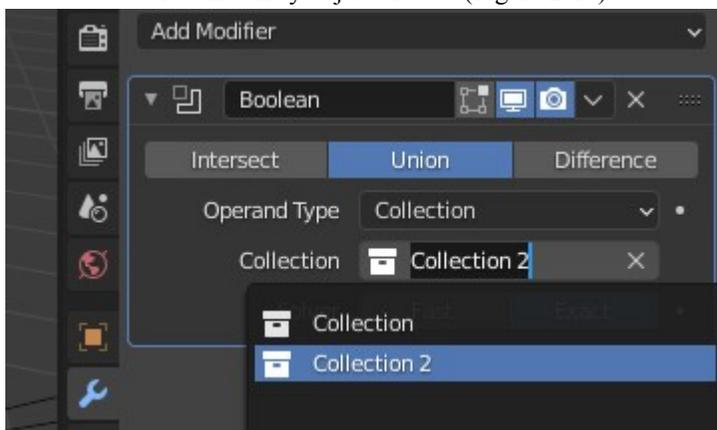

Figure 2-13 Boolean modifier acting on a Collection
1. Add four cubes near the lower end of the corridor, scaling and moving each one so they overlap each other corner to corner. Select all four cubes then select **Object** ▶ **Collection** ▶ **Move to Collection** ▶ **New Collection**. Select just one of them (to become the combined object), then **Add Modifier** ▶ **Boolean** (Union), and finally switch **Operand Type** to **Collection** and select the one you just created (Figure 2-13).